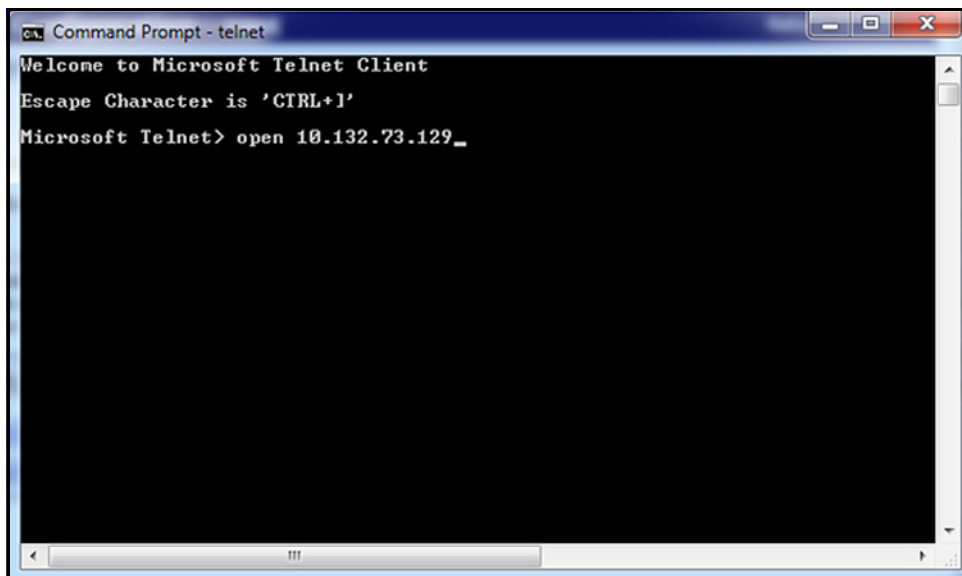

Figure 115: Telnet OPEN Command
2. To connect to the module, use the OPEN command with the IP address of the module (see *Figure 115* below).